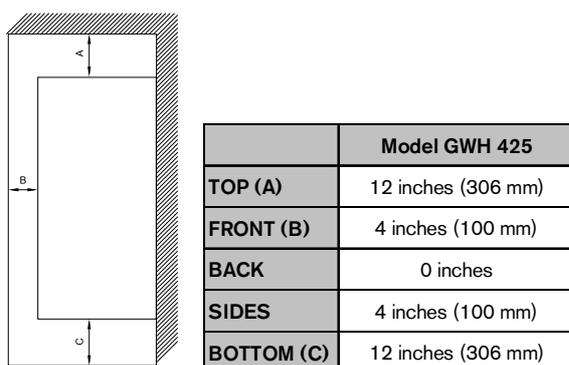

Fig. 4 Minimum clearances
The GWH 425 HN is design certified for installation on a combustable wall (see 3.4 Mounting installation) provided the floor covering below the heater is noncombustible. For installations in an alcove or closet, maintain the minimum clearances to combustable and non-combustible materials listed below. See also Fig. 4.
- ▶ A 5 inch diameter gas vent constructed of double wall Type B gas vent is recommended. A 6 inch vent is required in elevations greater than 2000 feet, see Fig. 4. Under no circumstances should the vent pipe be reduced in size.